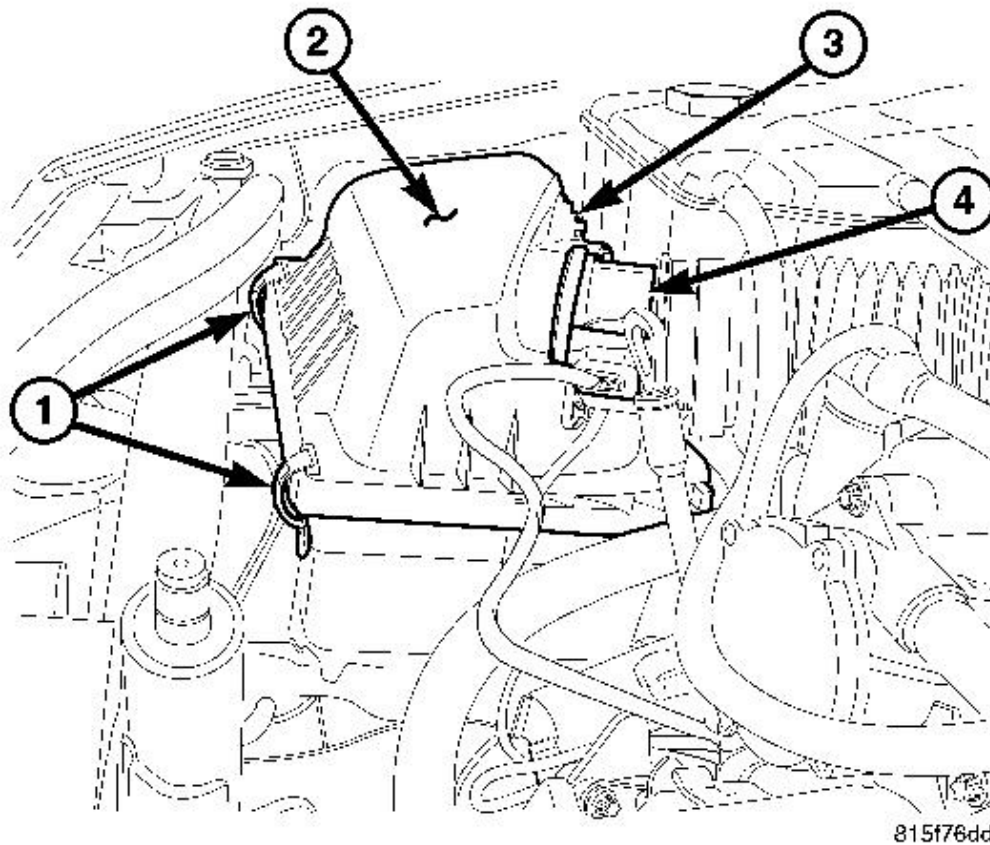

Fig. 186: Air Cleaner Cover And Components
17. Install the air cleaner outlet tube to the turbocharger and secure the air cleaner housing cover (2). See **Fig. 186.**